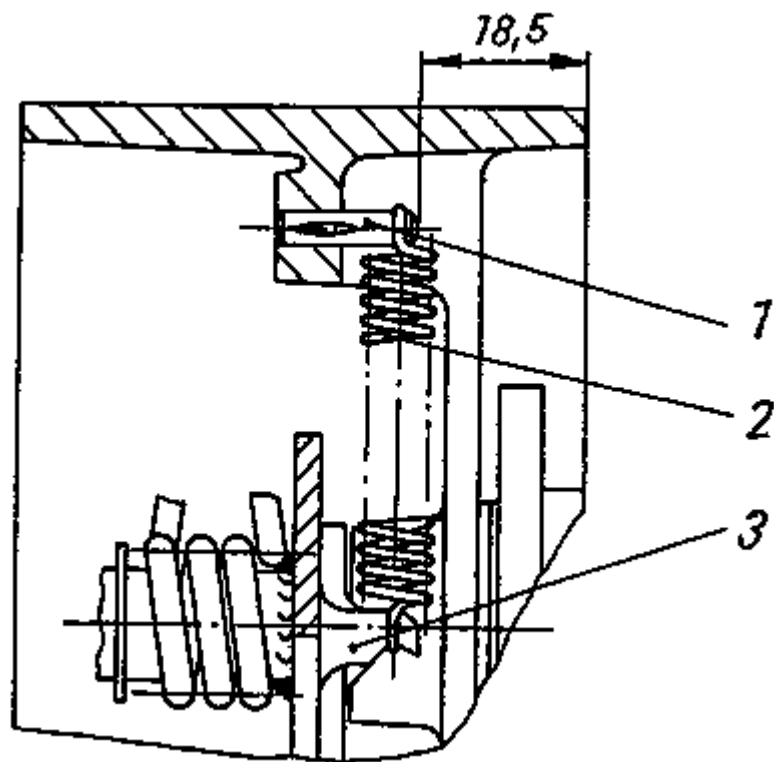

Fig. 39. Fitting the notched pin for gear-shift detent
- Press the cylindrical pin 8x40 (3) as a stop for the return spring of the gear-shift shaft from inside just far enough in its place that the pin is flush with the casing surface in the clutch compartment.
- Drive in the necked notched pin B 4x16 for suspending the detent spring in the gear-shift mechanism (pay attention to Fig. 39).